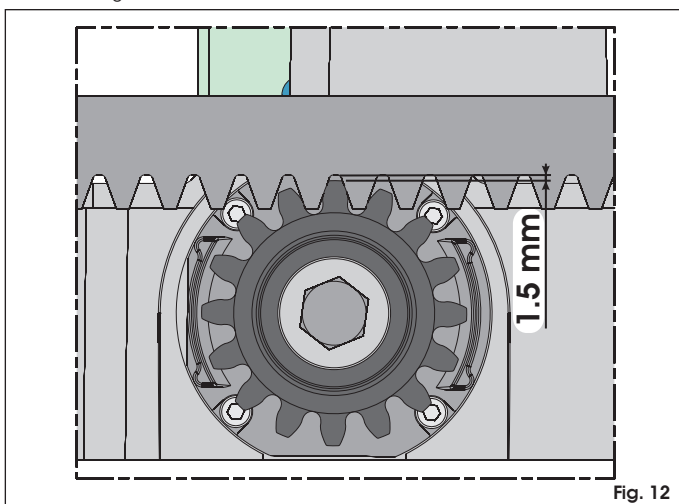

Fig. 12
**⚠ If the gate was recently built, check this play (fig. 12) a few months after installation.**